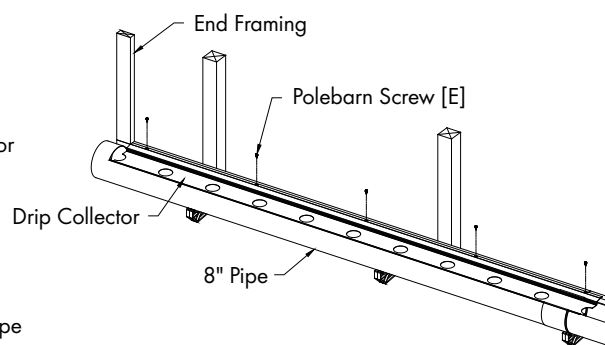

Figure 6B
Once Drip Collector is snapped into the 8" Pipe make sure Drip Collector and pipe is level and the flange is resting on top of 2x10 and Drip Collector is pushed up against the End Framing leaving a $\frac{1}{4}$ " gap between the end of the Drip Collector and the cut end of the 8" Pipe, then secure in place using (5) 1" Polebarn Screws [E]. *See Figure 6B and 6C.* Repeat for the remaining Drip Collectors, butting them up to one another.